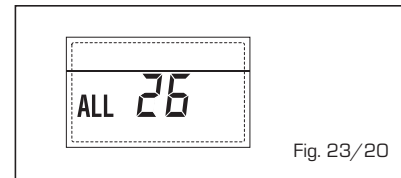

Fig. 23/20
- ANOMALY SOLAR APPLICATION COMPATIBILITY "ALL 27" (fig. 23/21)